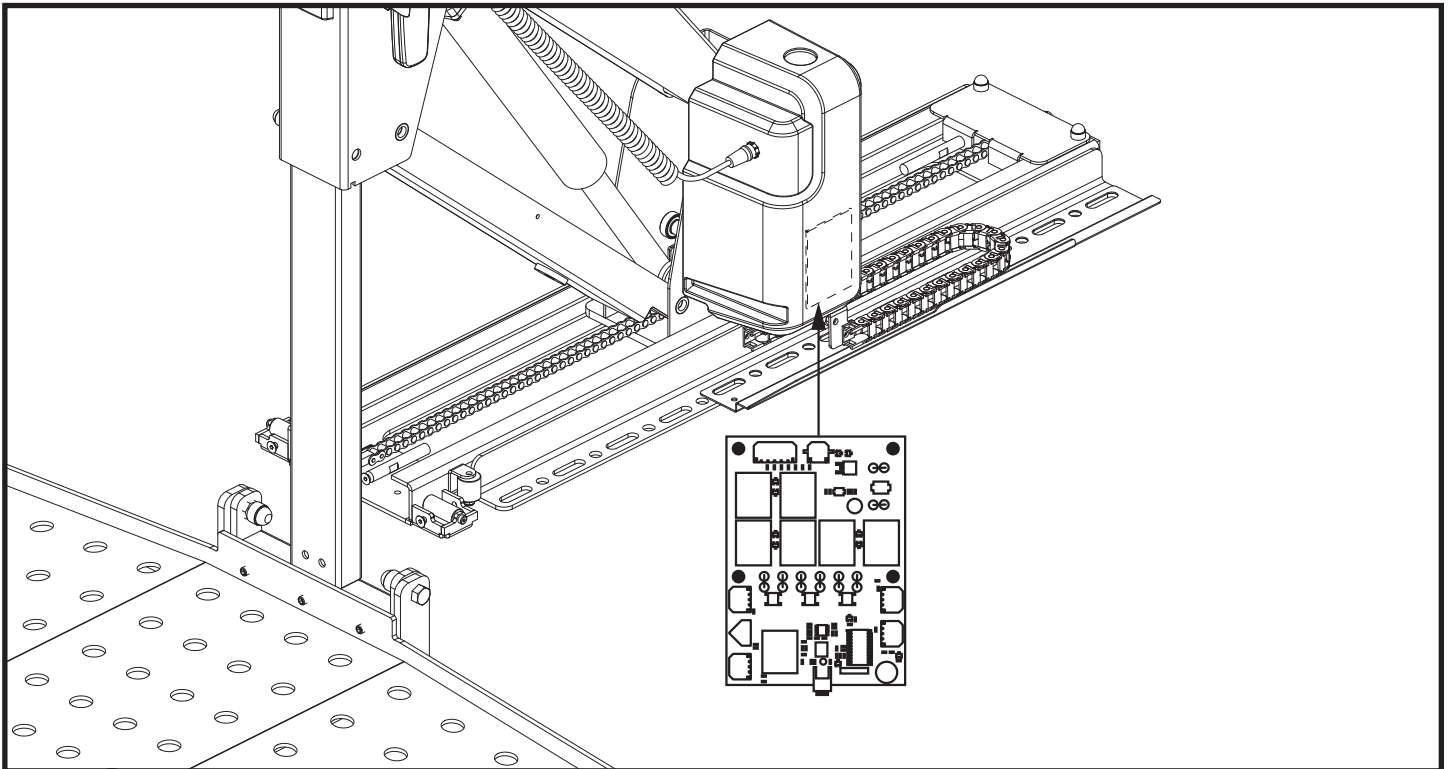
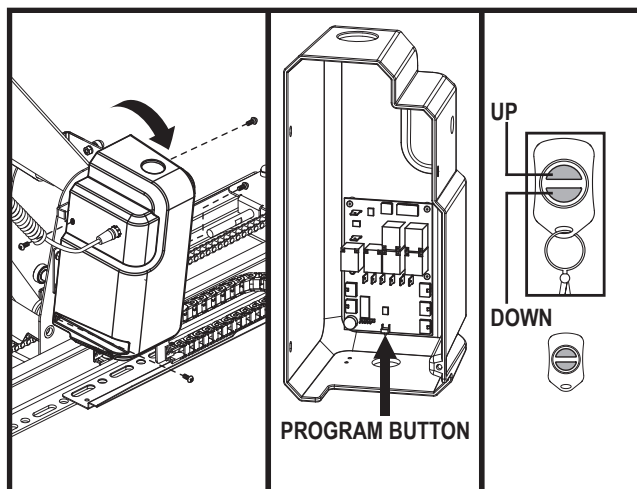

Figure 2. RF Wireless Pendant Internal Control Board Location
Figure 3. Receiver Chip Location
1. Locate the black box attached to the lift mechanism. **See figure 2.** Once located, remove the four screws that hold the box into place. **See figure 3.**
2. Allow the box to tilt forward to reveal the circuit board, and locate the program button at the bottom of the board. **See figure 3.**